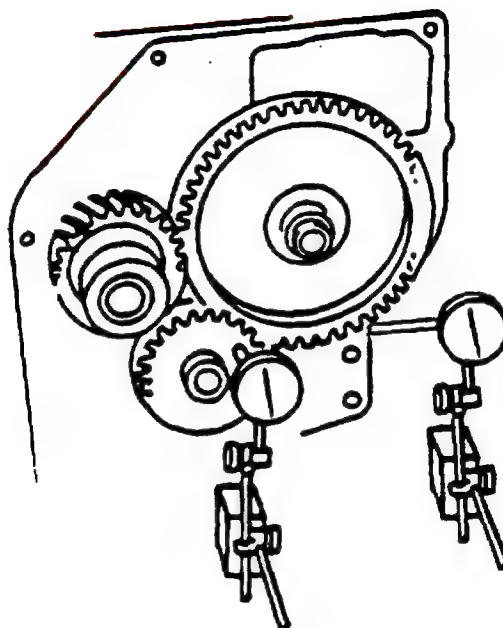

FIGURE 3-35. Measuring Gear Backlash and End Play
- e. Measure timing gear backlash (**FIGURE 3-35**) as follows:
- (1) Set a dial indicator on timing gear to be measured.
- (2) Hold gear to be checked and adjoining gear stationary.
- (3) Move gear tooth side to side in backlash. Record indicated backlash Total Indicator Reading (TIR). Standard TIR is 0.004 - 0.007 in. (0.10 to 0.17 mm) with a limit of 0.012 in. (0.30 mm)
- (4) If TIR exceeds limit, replace gear.